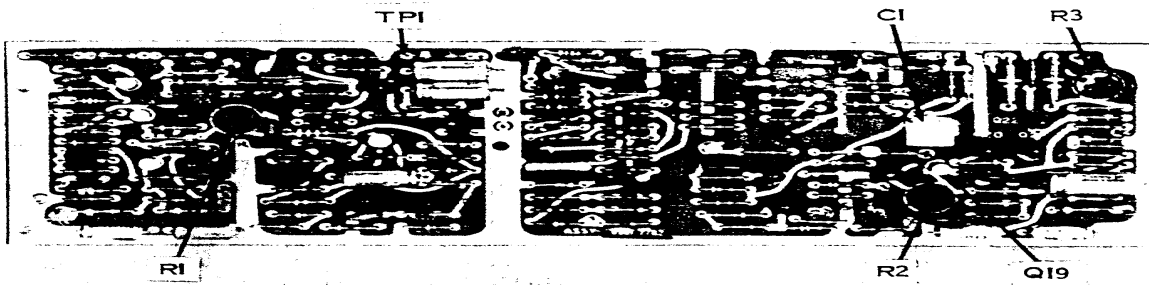

Figure 4. Horizontal sweep, test point location and adjustments.
- (1) Connect ac calibrator (A2) to TI CH1 INPUT, using cable (B5).
- (2) Set VERTICAL MODE switch to CH1 and time base to 1 MSEC, and press PULL X10 VERNIER control.
- (3) Adjust TI LEVEL control to 0 (zero), set CH1 VOLTS/DIV switch to 2, and AUTO TRIG SINGLE switch to TRIG.
- (4) Adjust ac calibrator frequency for 1 kHz and amplitude for 0.5 division of vertical deflection on crt. If display is not stable, perform **b** below.
b. Adjustment. Adjust A3A2R1 (fig. 4) for stable display on crt.
(1) Connect digital voltmeter (A3) between case of A3A2Q19 (fig. 4) and chassis ground, using leads and adapter supplied with digital voltmeter. If digital voltmeter does not indicate between -0.24 and -0.26 volt, perform **b(1)** below.
(1) Adjust A3A2R2 (fig. 4) for -0.25 volt indication on digital voltmeter (R).
¹Alternately adjust A1A2C9, A1A2C8, and A1A2C10 (fig. 4) for two cycles per Division.
²Adjust A3A2C1 (fig. 4) to align each marker behind each major graticule line.
(1) Adjust MAIN SWEEP CAL A3A2R3 (fig. 4) to align each marker behind each major vertical graticule line (R).